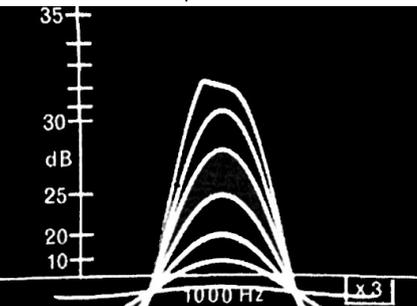

Fig. 20. Special test for amplifier input overload. See text for explanation.
Oscillogram Fig. 19 shows at (A) a good clean sine-wave but supposing this is passed through an amplifier you have constructed and appears as either (B) or (C). Both indicate what is called clipping and (B) is asymmetrical i.e., positive peak only clipped, whilst (B) shows symmetrical clipping with both positive and negative peaks clipped. This suggests either too much input signal and therefore overloading at the input stage, or malfunction of the amplifier due to wrong component values causing wrong operating voltages etc. Overloading an amplifier input stage is however, done deliberately to verify what is called 'overload margin' and Fig. 20 shows a special application where the input signal is increased until clipping becomes visible, in this case at about 32dB above the rated input level. The dB scale is photographed separately but is calibrated to match the amplitude of the input signal to the amplifier under test.